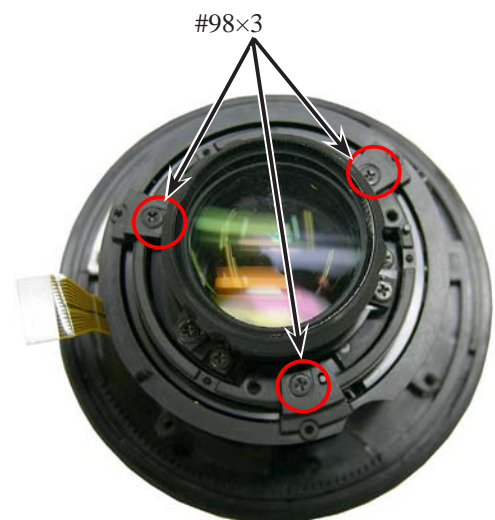

Fig.2
- ③ Tighten three screws (#98). (Fig.2)